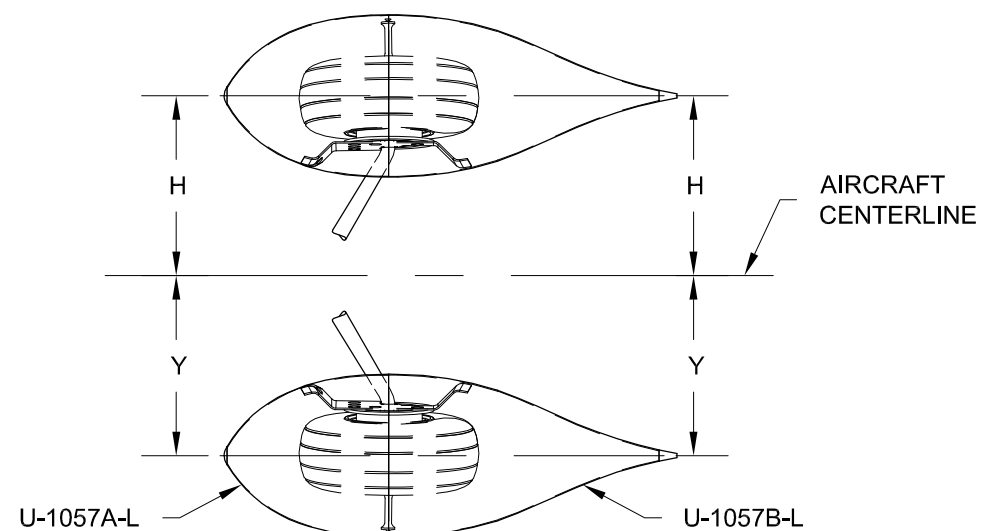

FIGURE 2: ALIGNING MAIN WHEEL FAIRINGS WITH THE AIRCRAFT CENTERLINE
Step 2: Cleco the U-1057A-L Wheel Fairing Front to the U-1057B-L Wheel Fairing Rear. Insert a 1/4 bolt through the fairing and screw it into the U-01004 Axle Nut Standoff without tightening it down. Carefully adjust the wheel fairing position until it is aligned with the aircraft centerline as shown in Figure 2.
To accomplish this drop plumb bobs from the fore and aft center of the fuselage and snap a chalk line through these marks, transferring the aircraft centerline to the floor. Measure from this centerline to the points depicted in Figure 2. When all the measurements are equal the fairings are parallel to the aircraft centerline.